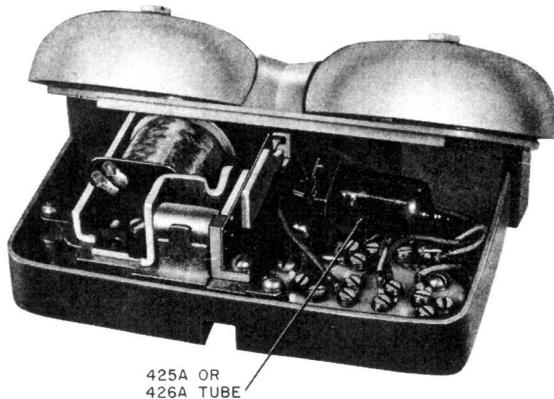

Fig. 1—L1A Ringer with 425A or 426A Tube
1.01 The L1A ringer (Fig. 1) is a single-coil, high impedance, loud ringing signal for indoor and outdoor use.